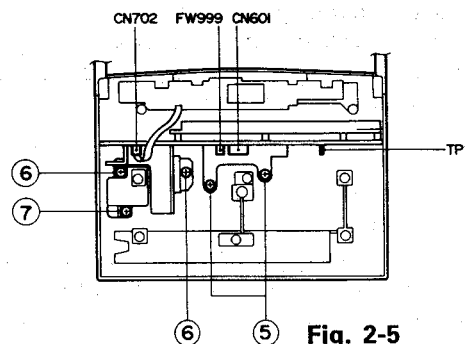

Fig. 2-5
• **Main board assembly** (Fig. 2-5)
1. Remove two screws (5) retaining the jack bracket.
2. Remove two screws (6) retaining the power transformer.
3. Remove one screw (7) retaining the mechanism holder.